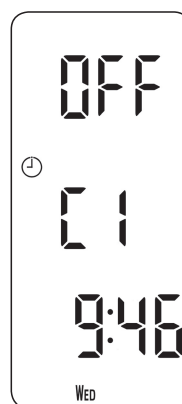

Fig. 19
- c) When all events are programmed press the **PROG** button to return to **RUN** mode (**Fig. 19**).